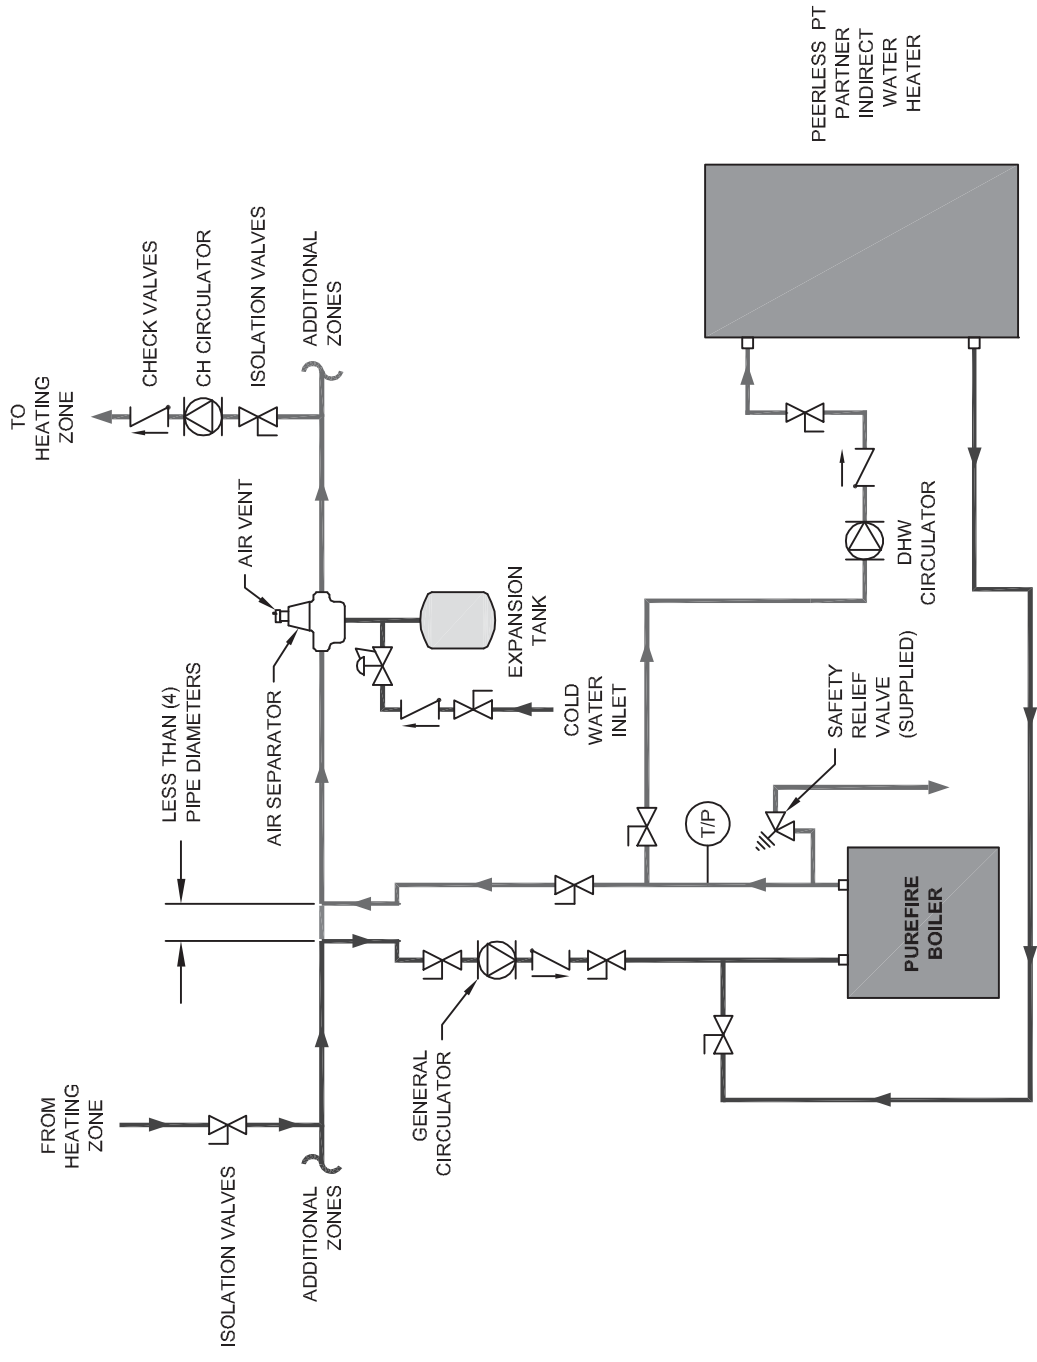

Figure 4.6: Alternate Piping – One Boiler, Primary/Secondary with a Peerless® Partner® (Zone Circulators).
- 2. For a single boiler with one heating zone and one DHW zone which utilizes an indirect water heater like the Peerless® Partner®, pipe the boiler as shown in Figure 4.6. In systems like this, the DHW circulator must be sized to provide the minimum flow rate through the boiler.